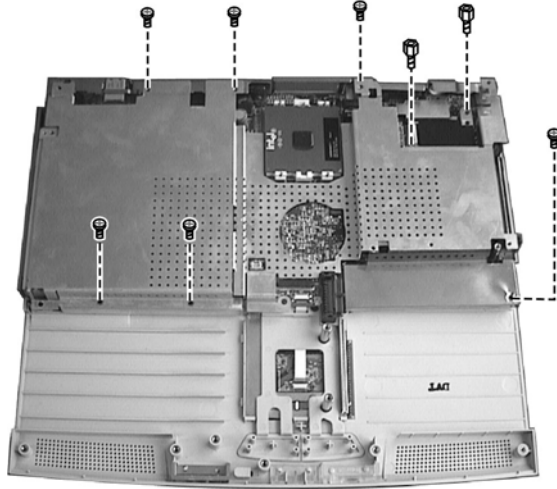

Figure 2-23
6. Remove six screws and two hexnut screws fastening the metal shield, and then lift the shield up from the system board carefully. (figure 2-23)